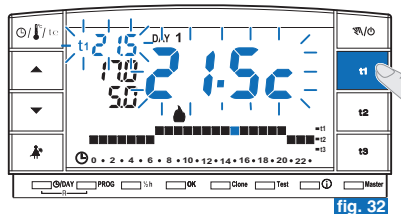

fig. 32
- If you select a key (t1 or t2) relative to a blocked temperature, the symbol (t1 or t2), the relative value to the side and the central digits (example in fig. 32) will blink. In this case, you cannot exceed the maximum or minimum temperature beyond the set block limit.*
- Press the set temperature key to be unlocked (**t1** or **t2**). The selected symbol (**t1** or **t2**), the relative value to the side and the central digits will blink (example in fig. 32).